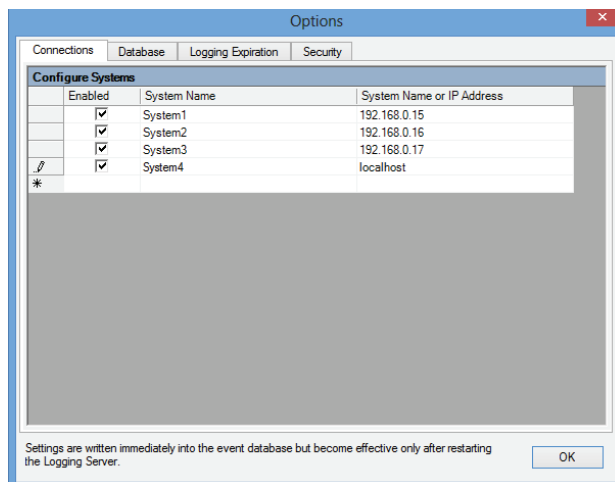

figure 58.7: Add a system (2)
- 2 Click the *System Name* field and enter the name of the system to which the *Logging Server* must connect. The name may consist of up to 16 characters. For example, *System 4* (see figure 58.7).